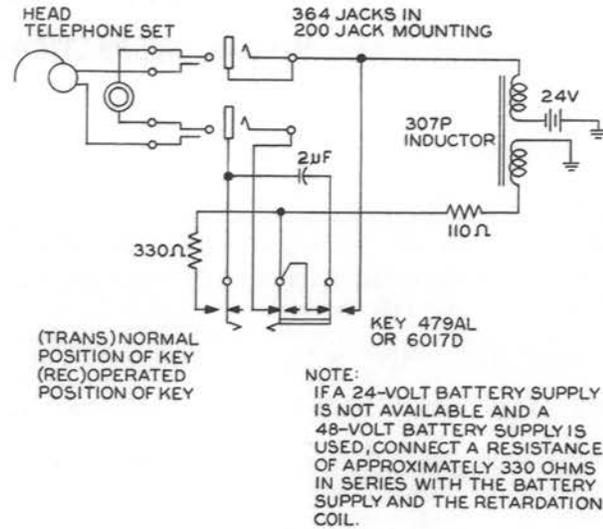

Fig. 1 - Testing Circuit
2.02 Testing equipment made up locally as shown in Fig. 1.